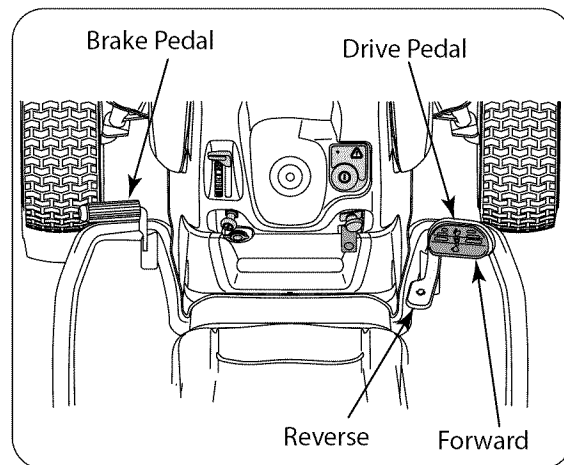

Figure 7
- To travel forward: Slowly depress the upper portion of the drive pedal forward until the desired speed is achieved. See Figure 7.
- To travel in reverse: Check that the area behind is clear, then slowly depress the lower portion of the drive pedal with the ball of your foot (not your heel) until the desired speed is achieved. See Figure 7.